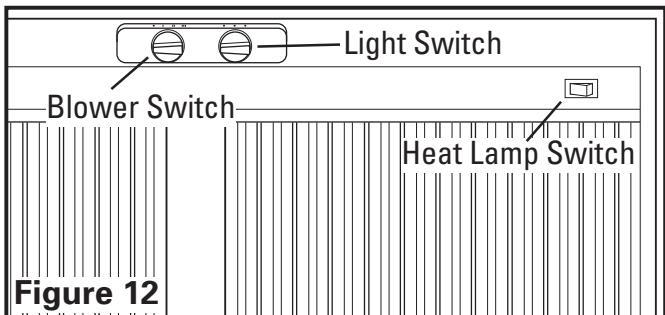

Figure 12
Heat Lamp Controls: For models equipped with heat lamps, two On/Off rocker switch are located on the front underside of the hood for independent control of the heat lamps (**Figure 12**).
Your Range Hood is equipped with two rotary switches with one controlling the lighting and the other controlling the exhaust fan blower. The light switch has three positions, HIGH (●), LOW (◐), and OFF (•). The fan switch has four positions, OFF (•), HIGH (I), MEDIUM (II), and LOW (III) (**Figure 12**).